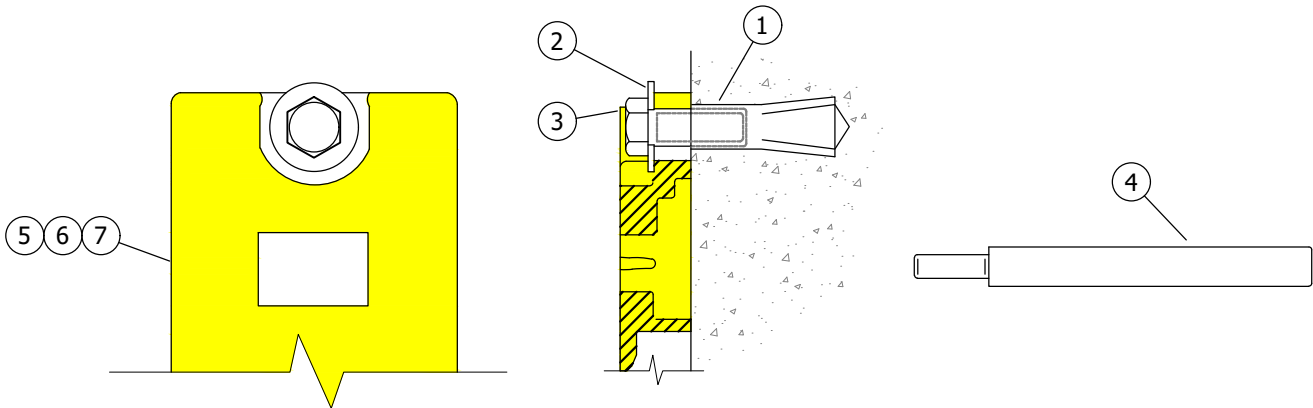

FIGURE 1
- (IV) NOT SHOWN IN FIGURES.
- (V) INCLUDES ALL HARDWARE SHOWN ON FIGURE 1.
- (X) THIS ITEM IS EXEMPT.